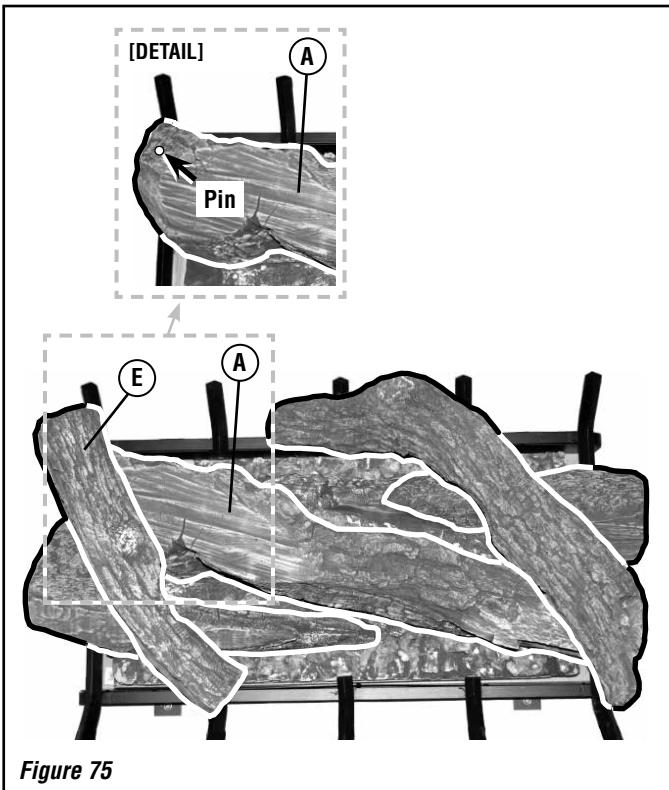

Figure 75
10. See **Figure 75**. Place hole on underside of **Top Left Log E** over pin on **Center Log A**.